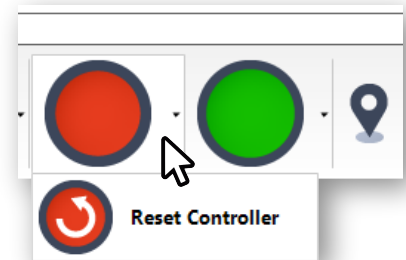

Figure 1
- 1) While the machine is idle, click the drop-down arrow next to the red stop button at the bottom center of TigerVision and select 'Reset Controller'. (Figure 1)